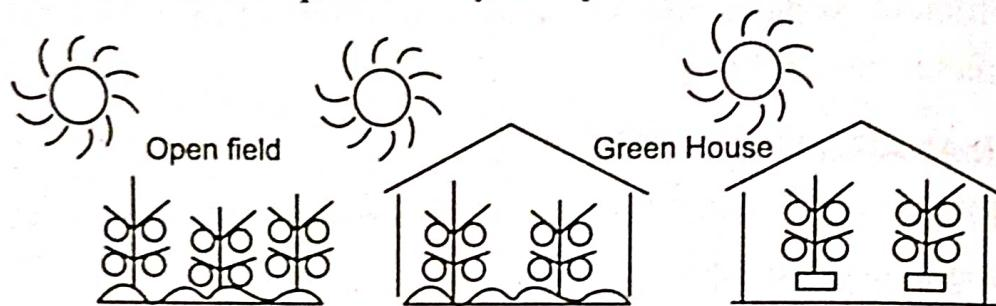

Fig. 2.2. Crop Growth in Green house
- ❖ Greenhouse management encompasses a range of factors, including temperature, humidity, light, irrigation, nutrition, and disease control. Figure 2.2 depicts the crop growth in the open field and in green house with soil and with out soil.
- ❖ In greenhouses, information technology (IT) plays a key role in managing crop growth by creating a precisely controlled environment.